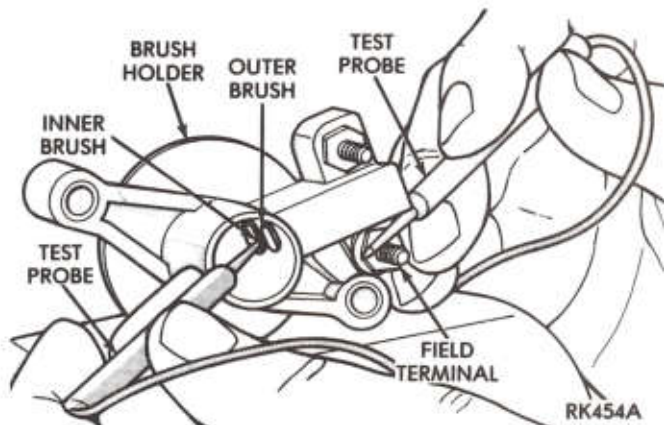

Fig. 2—Test Outer Brush Continuity
- (3) Repeat step 2 on outer brush (Fig. 2).